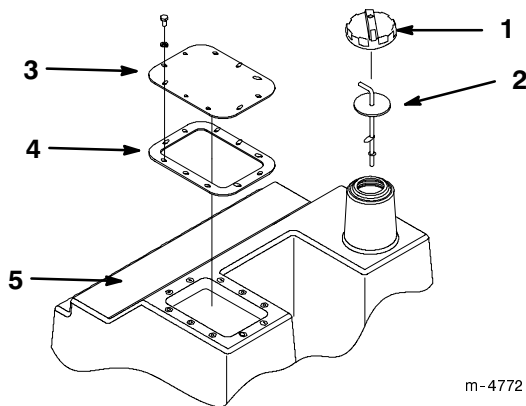

Figure 41
6. Remove the Hydraulic tank cap and dipstick (Fig. 41).
7. Remove the top cover of the hydraulic tank and discard the gasket under the cover (Fig. 41).